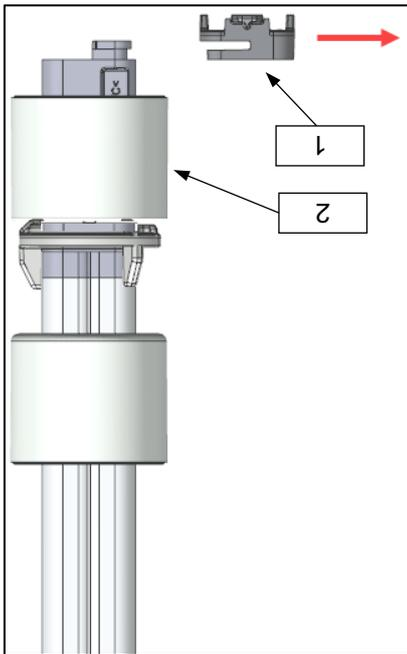

Figure 8
The respective switching function selected can be identified by the colour marking of the float (Figure 8, item 2):
- By turning the float (Figure 8, item 2) through 180°, the switching function normally open to normally closed or normally open to normally open can be subsequently inverted. Only the switching function normally open or normally closed can be inverted.
- Only the float at the empty signal switching point (S1) can be turned. This function is not possible with the float (Figure 8, item 2) of the pre-empty switching point (S2).